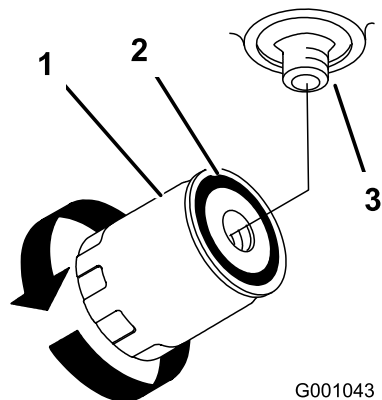

Figure 68
- Apply a thin coat to the rubber gasket on the replacement filter (Figure 68).
- Fill the hydraulic tank with hydraulic fluid until the fluid overflows the filter and then turn the oil filter clockwise until the rubber gasket contacts the filter adapter, then tighten the filter an additional 1/2 turn (Figure 68).